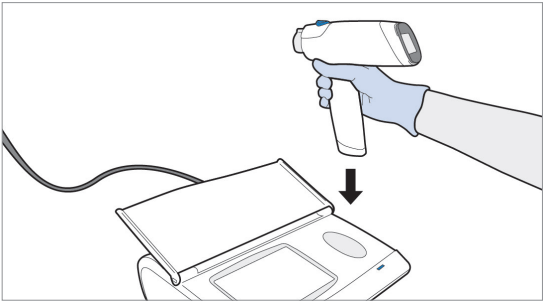

Figure 66 Place Handset in Base Station
5. Return the Handset to the Base Station (see Figure 66).